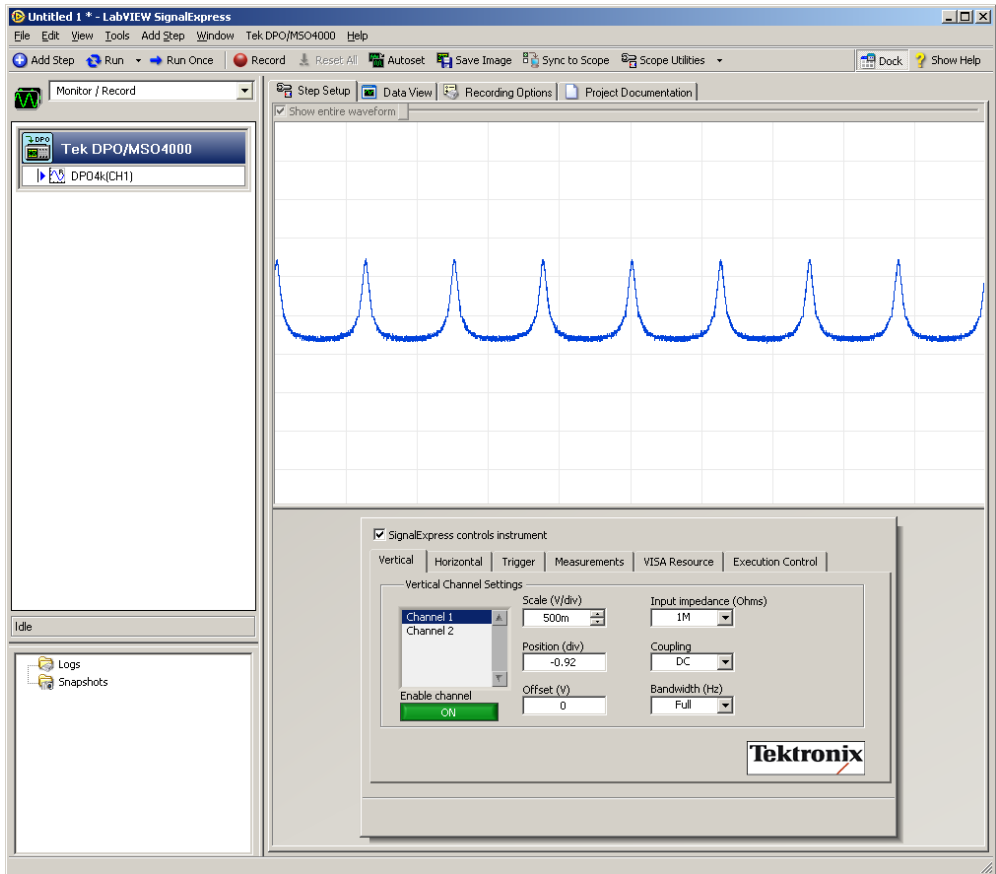

Figure 3-4. Live View of a Signal from a Tektronix DPO4000 Series Oscilloscope
5. LabVIEW SignalExpress Tektronix Edition launches and provides a live view of the signal from the oscilloscope or arbitrary/function generator. Figure 3-4 shows an example signal acquired from a DPO4000 series oscilloscope.